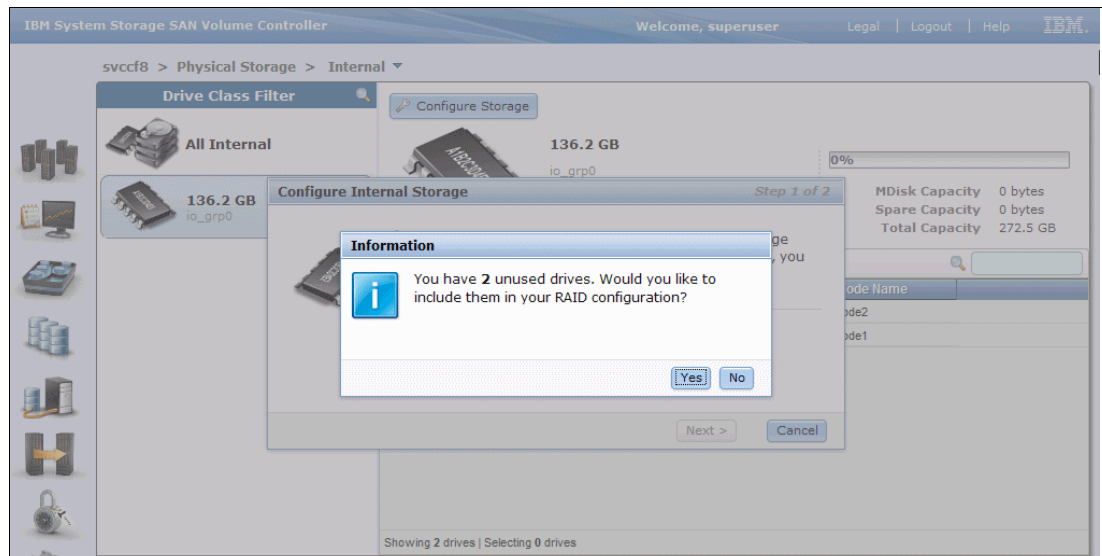

Figure 16-8 Confirming the number of SSDs to enable
15. Because two drives are unused, click **Yes** to continue when you are prompted about whether to include them in the configuration, as shown in Figure 16-8.